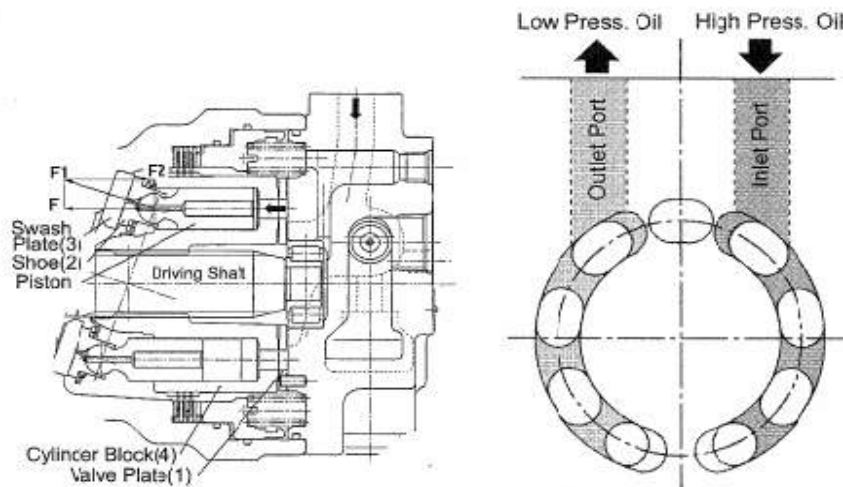

Fig.2 Operation of motor section.
When high-pressure oil passes through the inlet port (a) of the valve plate (1) and flows into the cylinder as shown in Fig.2, the oil pressure acts upon the piston to generate the axial force “F”.